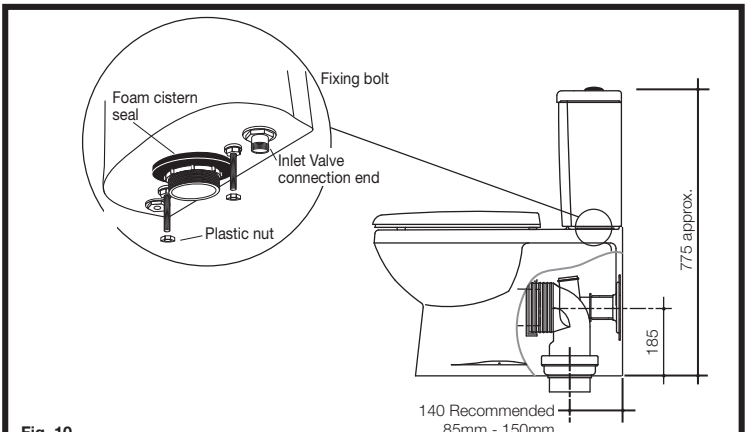

Fig. 10
- 1- Ensure the foam seal at base of cistern is securely attached to cistern base, as detailed in Fig. 10.